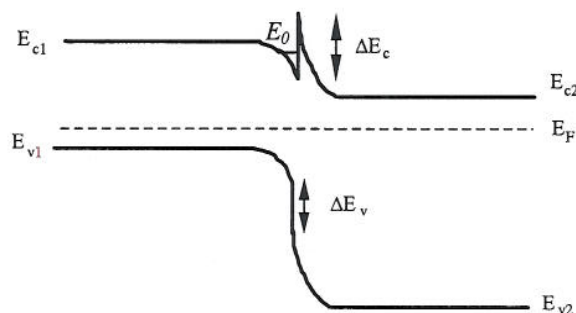

Figure 1.2: Energy band diagram of an an-isotype heterojunction.
- e) Given the energy band diagram of the an-isotype heterojunction in fig.1.2, do you expect the energy level in the quantum well  $E_0$  to be populated with holes, electrons or no carriers. Explain your answer **briefly**. [2]